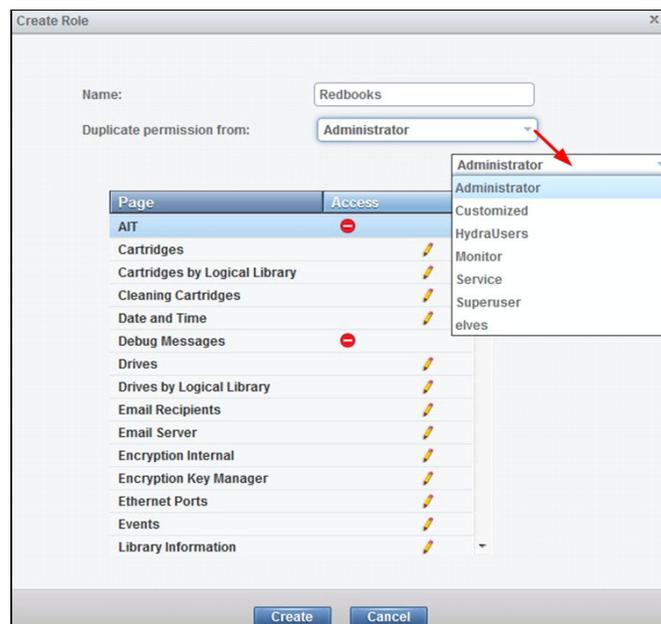

Figure 5-105 Create role panel and options
4. Select one of the preset role permission levels from the Duplicate permission from list box (see Figure 5-105 on page 127). All roles can access all logical libraries in the Diamondback tape library.